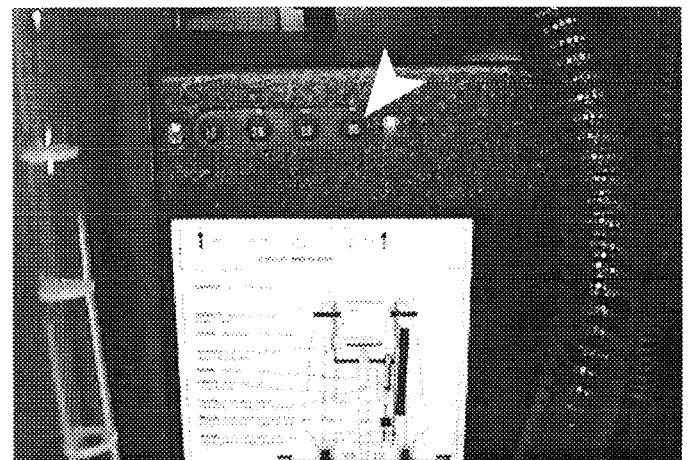

FIG. 17
The SS2701 and SS3301 models are equipped with (4) circuit breakers to protect motors from damage. If circuit breakers trip, they cannot be reset immediately. Determine reason breaker tripped, allow motor to cool and then reset. Brush motor circuit breakers will trip due to excessive overload on pad. Clean or change pad if breaker should trip. Circuit breaker buttons are located at rear of machine as shown (*Figure 17*). The TS2701 and TS3301 models are only equipped with a MAIN circuit breaker, located at rear of control console (*not shown*).